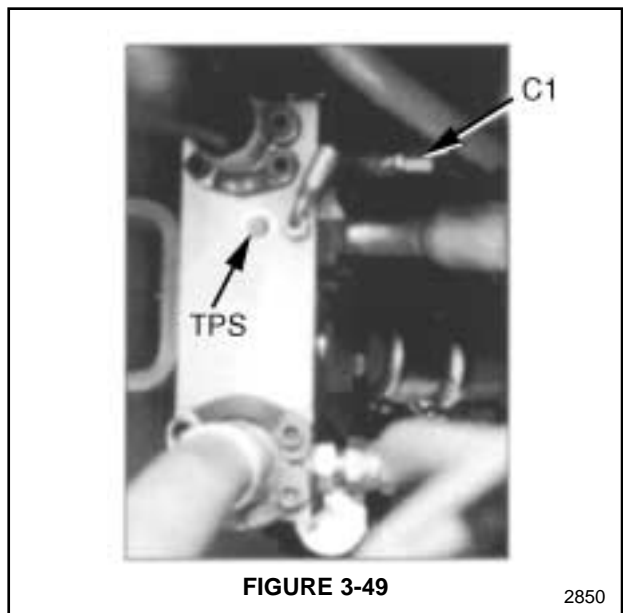

FIGURE 3-49
1. Attach gauge to Port TPS on the unloader valve. See Figure 3-49.